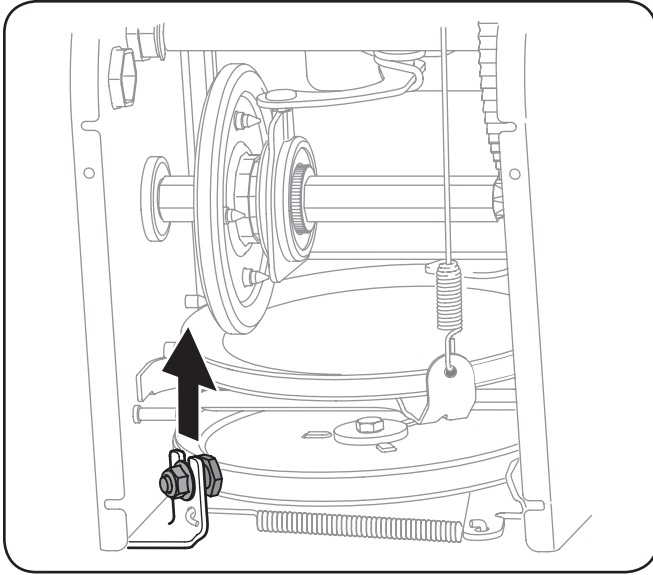

Figure 7-4
- Loosen and remove the shoulder bolt which acts as a belt keeper. See Figure 7-4.